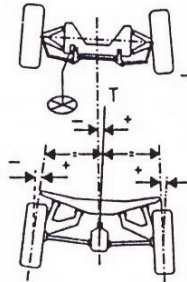

Fig. 1-10 Thrust Angle
1.2.2.6 Thrust angle (Fig. 1-10)